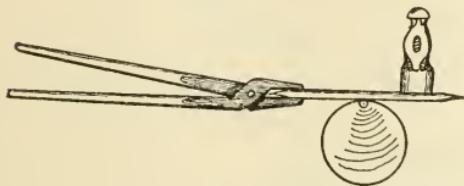
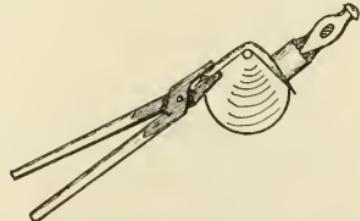

FIG. 176.—BENDING STAPLE AT MIDDLE POINT.
FIG. 177.—BENDING THE STAPLE OVER THE HORN OF THE ANVIL.
2. Bending.—When both ends have been drawn out, heat the iron and bend it at the middle point, holding it as in Fig. 176, and striking not above the horn of the anvil, but just beyond it. As the iron bends, continue striking it, holding as in Fig. 177.